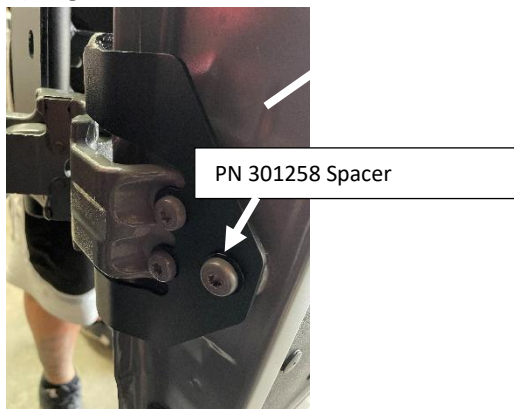

Figure 8: Bracket Fully Installed with Machined Spacer
18. After tightening the two bolts closer to the outside of the door, remove the third bolt, place in the Machined Spacer (301258) and reinstall through the spacer and bracket (Figure 8). Tighten hardware.